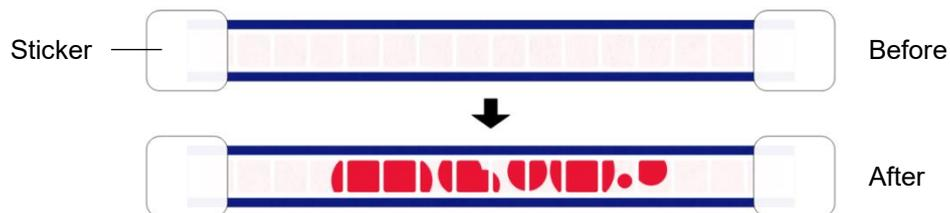

Figure 2. Image of tape installation
(2) Use the attached stickers to apply to the tape. Fix both ends of the tape as shown in Figure 2.